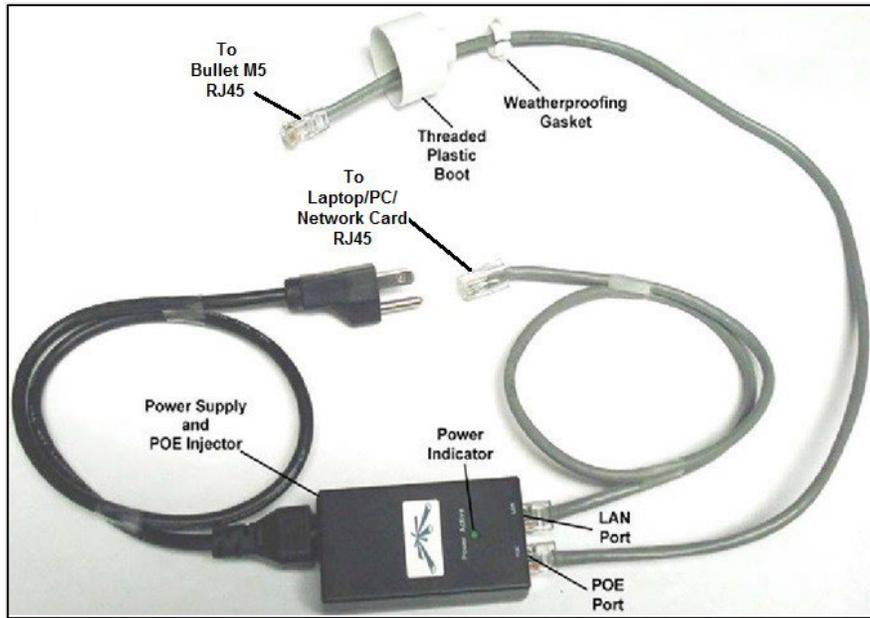

Figure 3 Power Supply/POE Injector and Patch Cables
2. Remove the Bullet M5 threaded plastic boot and weatherproofing gasket (Figure 3).